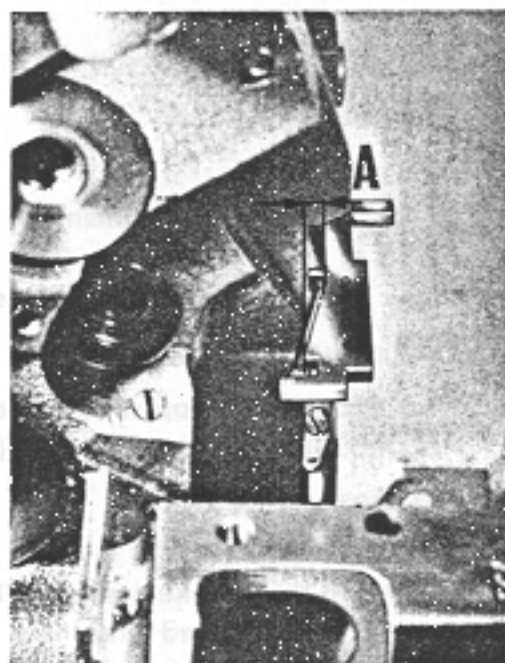

fig. 5
- Rest the gauge S.1665.00 on the milled base as in fig. 5; obtain correct inclination by moving lever C and by rotating the looper (previously having only been held in its seating and not locked).